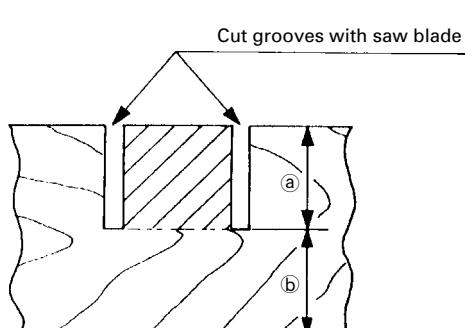

Fig. 37
Grooves in the workpiece can be cut as indicated in Fig. 37 by adjusting the 8mm depth adjustment bolt.
- (1) Loosen the 8mm wing nut and turn the 8mm depth adjustment bolt by hand.
- (2) Adjust to the desired cutting depth by setting the distance between the saw blade and the surface of the base (see (b) in Fig. 37).
- (3) The 8mm wing nut must be properly tightened after the adjustment has been completed.